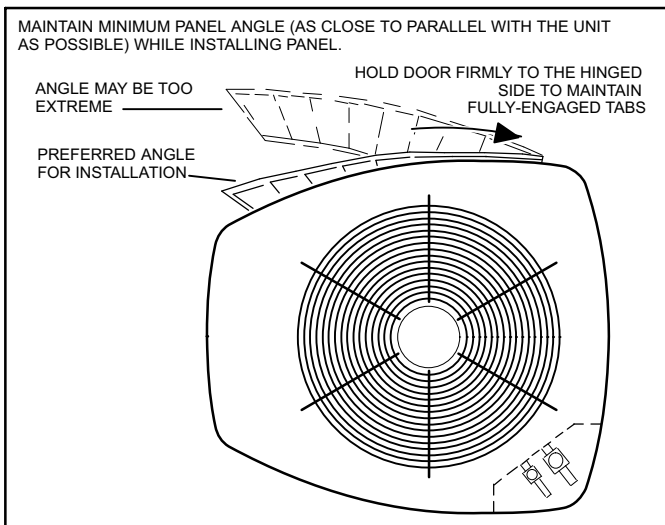

Figure 13. Removing/Installing SmartHinge™ Panels (Detail D)
1. Position the panel almost parallel with the unit as illustrated in figure 13, detail D with the screw side as close to the unit as possible.